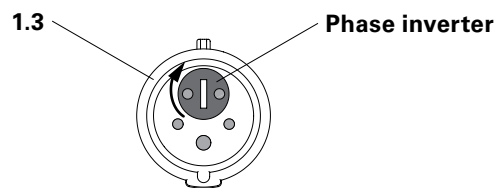

Fig. C1.03
- Turn the phase inverter by 180° in the Adapter Cable RCS (1.3) (Fig. C1.03)